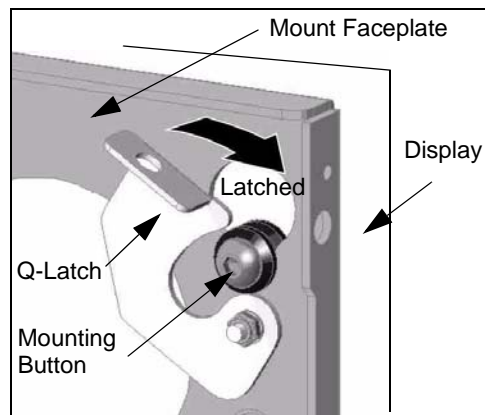

Figure 11: Close Q-Latch
5. Secure the display to the mount by moving the Q-Latch to the "latched" position. (see Figure 11:)